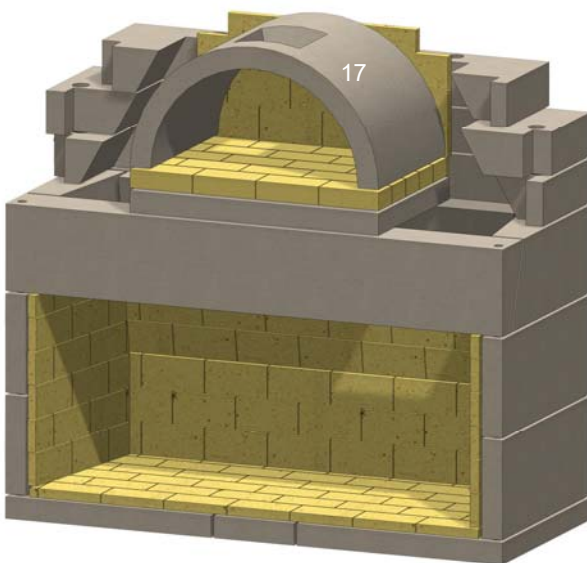

Figure 25. Oven Dome
P. Install the oven dome. See Figure 25.